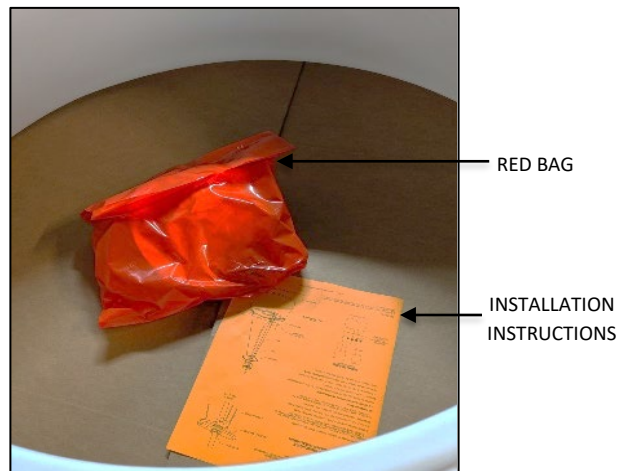

FIG. 3 RED BAG AND INSTALLATION
2. INSTALLATION INSTRUCTIONS (shown in FIG. 3) - Please completely read the install instructions before starting installation.
3. RED BAG (shown in FIG. 3) contains below following items.